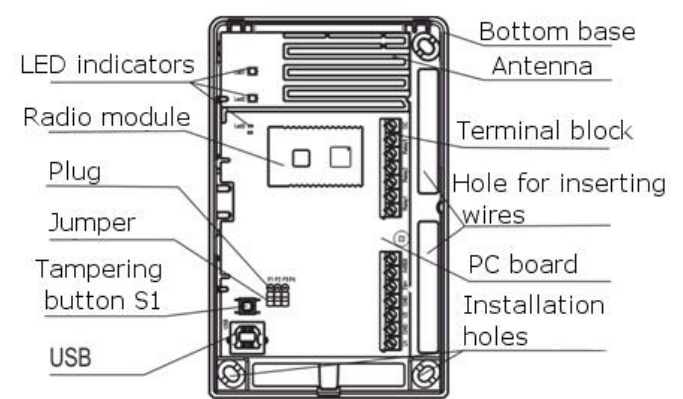

Figure 2
4.1 WE 433 represents a unit consisting of a base and a removable cover. Mounted inside the block is a printed circuit board (PCB) with wireless elements (Figure 2).